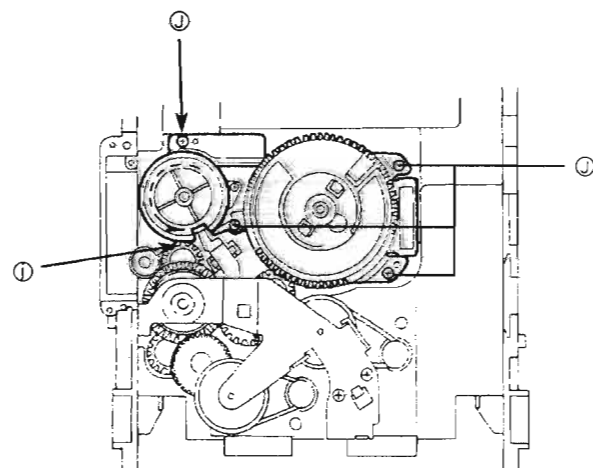

Fig. 43
4. Rotate the Cam gear L so that the select gear's ① is positioned as shown in Fig. 43.
5. Remove 4 screws ① securing the cam unit which includes the cam gear L and Cam R1, R2 ass'y. (See Fig 43.)